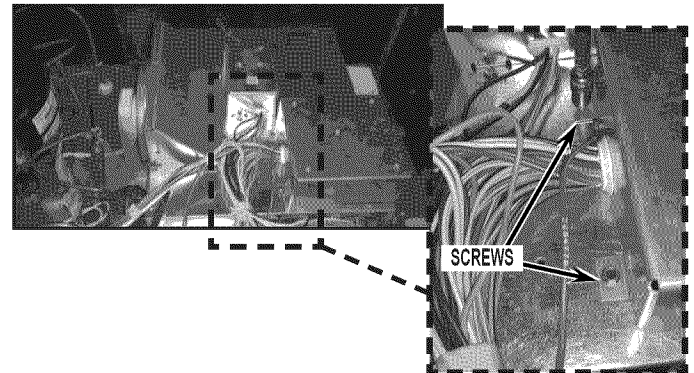

FIGURE 4
6. Remove the 2 screws attaching the old HV assembly to the condenser cover, set screws aside. See *Figure 4*.